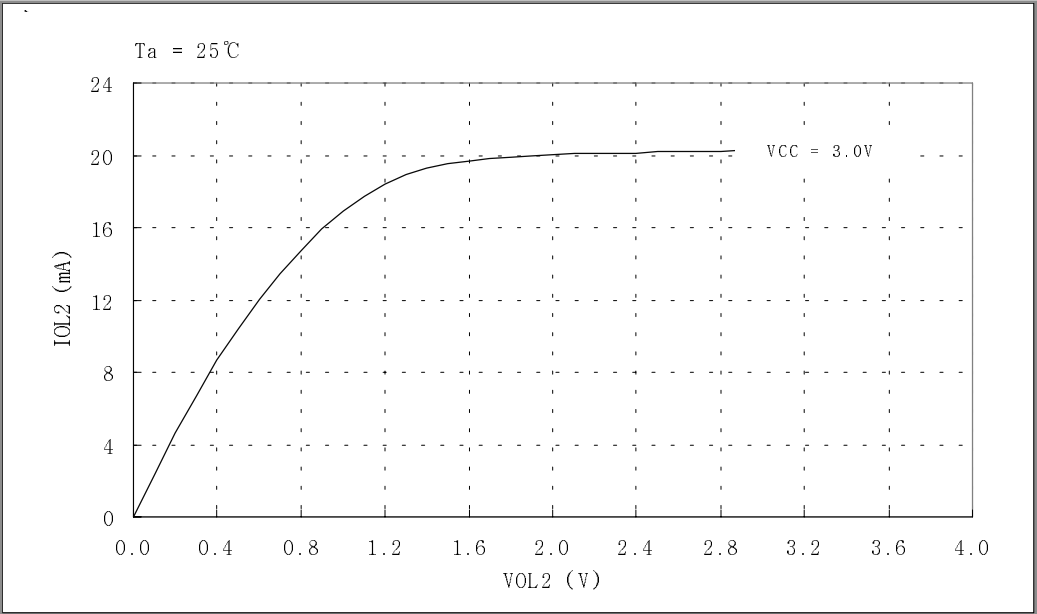
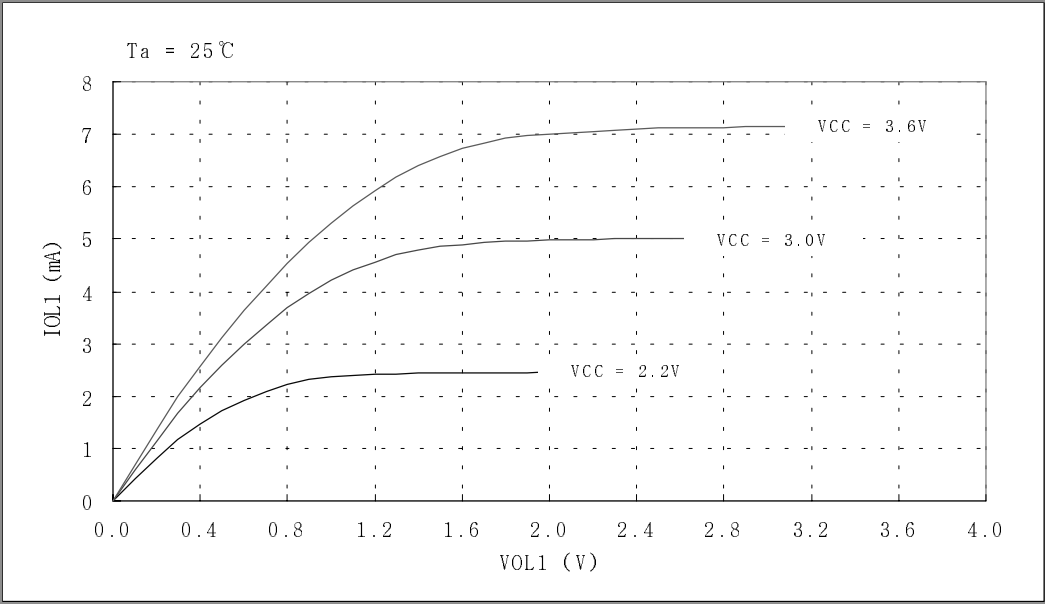

Fig 8-1. I_{OL2} vs. V_{OL2} Graph. (D, R, OD6 Port)
Fig 8-2. I_{OL1} vs V_{OL1} Graph (REMOUT Port)
*1 Refer to Fig.8-1 < I_{OL2} vs. V_{OL2} Graph>*2 Refer to Fig.8-2 < I_{OL1} vs. V_{OL1} Graph>*3 Refer to Fig.8-3 < I_{OH1} vs. V_{OH1} Graph>*4 I_{DD1}, I_{DD2} is measured at RESET mode.